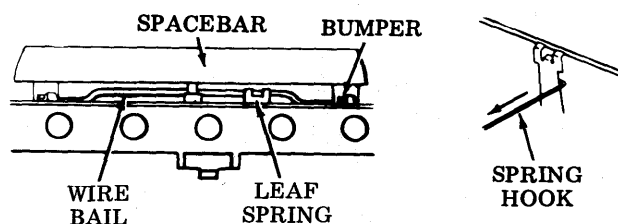

Fig. 2—Leaf Spring Disengagement
- (a) Disengage the leaf spring (bronze colored) from the wire bail using a spring hook and pull toward the front (Fig. 2).